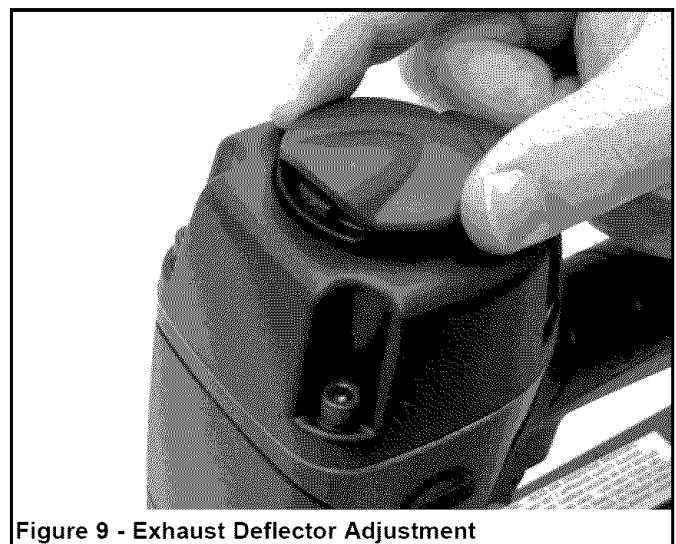

Figure 9 - Exhaust Deflector Adjustment
- Exhaust deflector can be positioned to point in any direction (full 360° movement). Reposition deflector by grasping firmly and rotating to the desired position (see Figure 9).